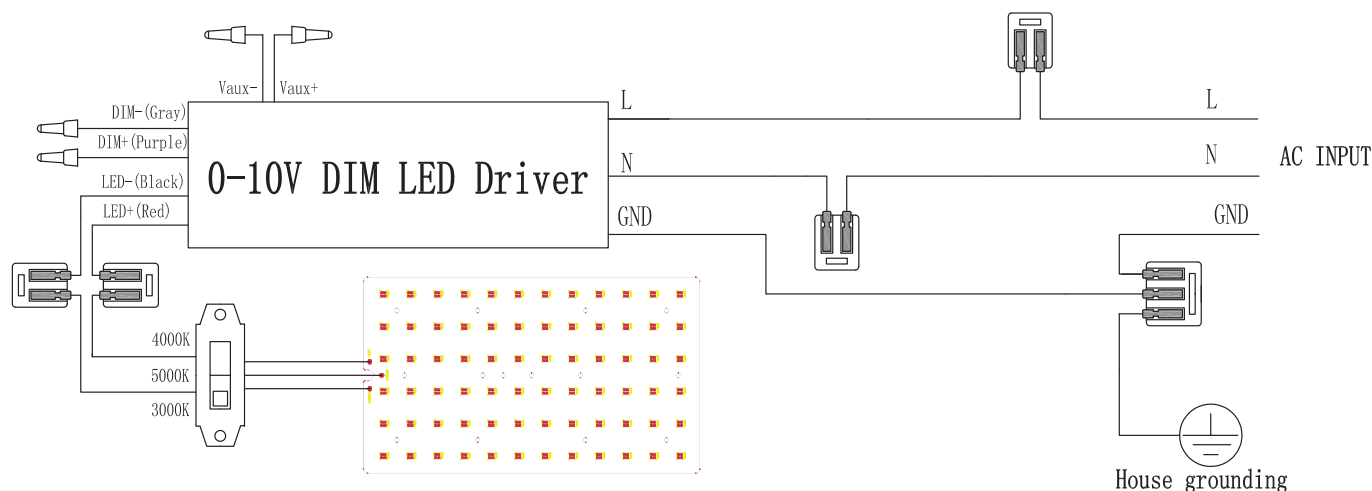
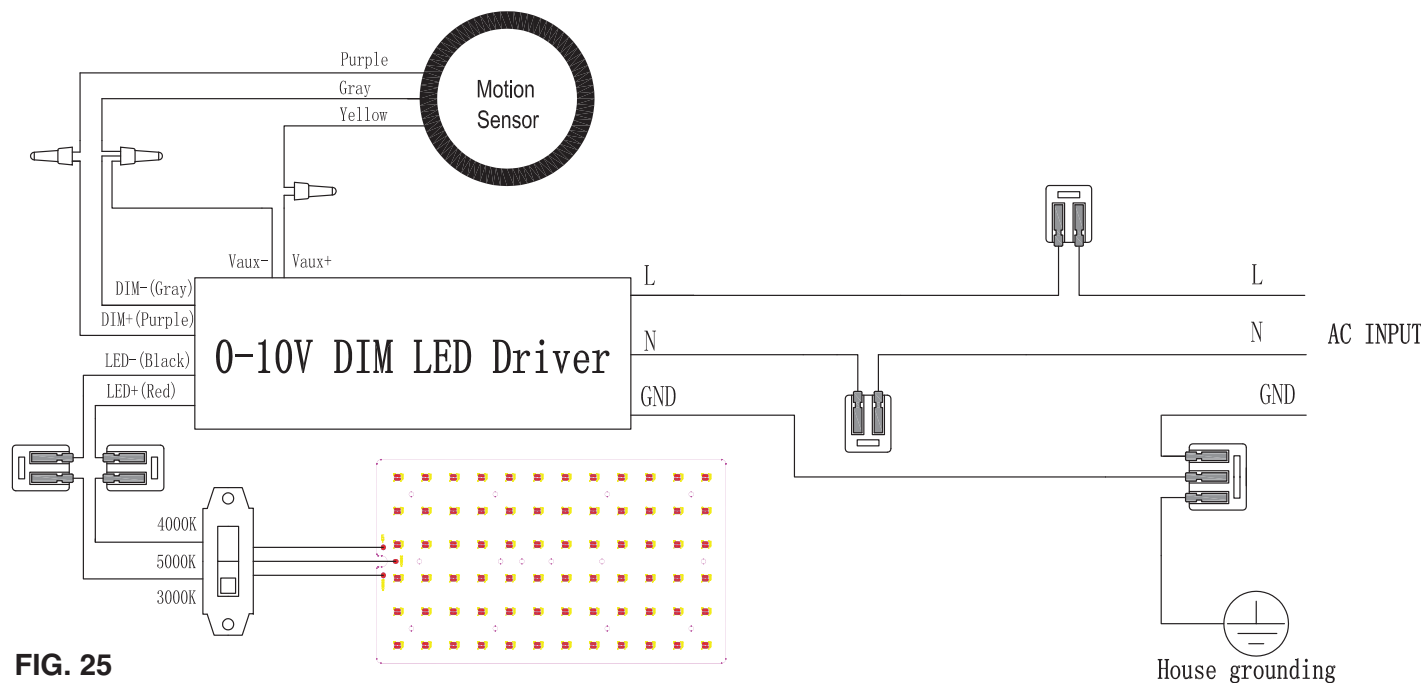

FIG. 23
FIG. 25
3. The **FIG. 23** to **FIG. 26** demonstrates the interior wiring of four different configurations in the driver compartment (When need to remove or replace any component in the driver compartment, please refer to the below wiring **FIG. 25** to **FIG. 28** and base on the actual condition, resume using the fixture by wire connecting).
1. **FIG. 23** is for wirings when only one LED driver is used in driver compartment, no options.
3. FIG. 25 is for wirings when motion sensor is used.